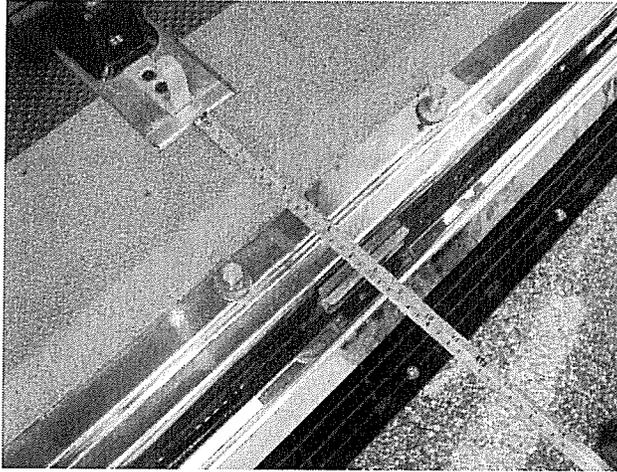

Figure 3: Measure for anchor installation
2. Measure from the end of the floor plate to the end of the bumper to determine how far you can move the anchor toward the head end (Figure 3 on page 17).